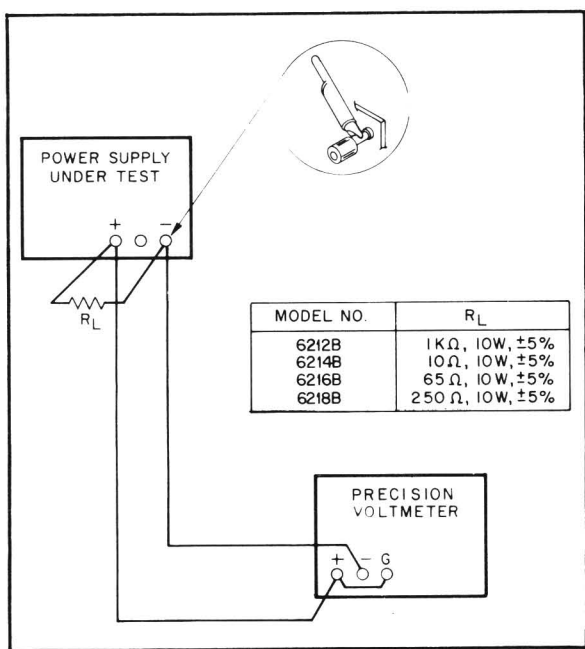

Figure 5-2. CV Load Regulation, Test Setup.
- Connect load resistor (R_L), indicated in Figure 5-2, across the output terminals of supply.
- Connect test setup shown in Figure 5-2.
- Connect the load resistance and differential voltmeter as illustrated in Figure 5-2.